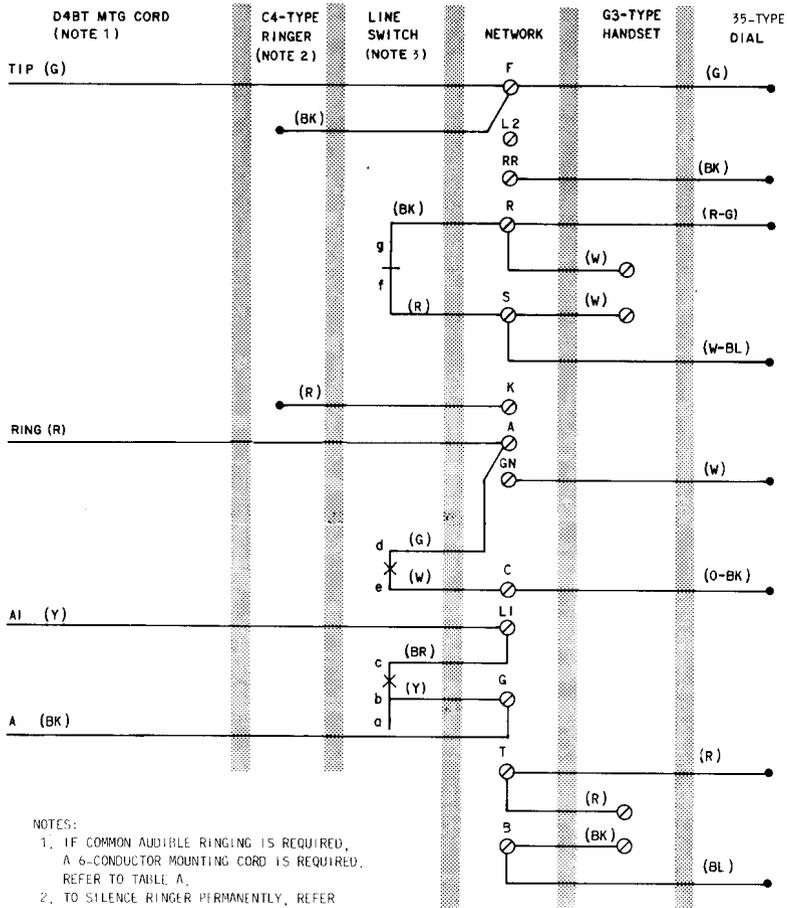

Fig. 1—2500M (MD) Telephone Set, Connections
1.01 This section contains information on the 2500M (MD), 2500MM, and 2500MMG telephone sets (Fig. 1, 2, and 3). These sets are factory-wired for A-lead control.
Note 2: If set is equipped with a 4-conductor mounting cord (Fig. 1, 2, and 3) replace with a 6-conductor mounting cord.